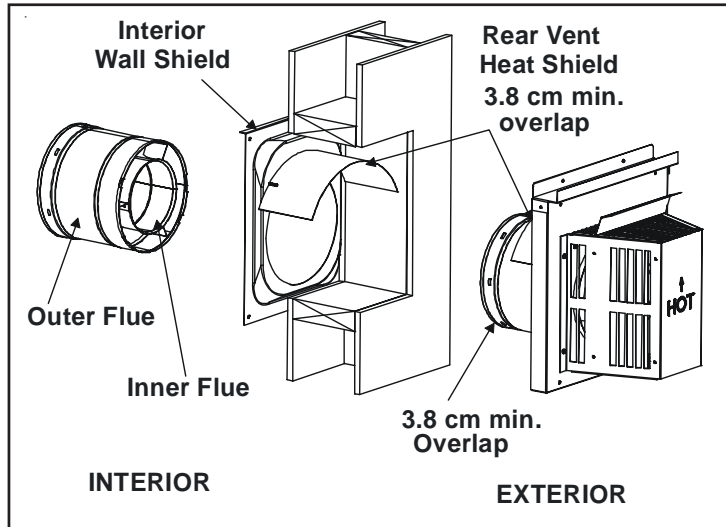

FIGURE 22. Venting through the Wall
- One section of the heat shield is attached to the wall shield. The other is attached to the termination cap in the same manner (see Figure 22).
- The heat shield sections will overlap to match the wall thickness (depth). The small leg in the shield rests on top of the flue to properly space it from the pipe section (see Figure 22).